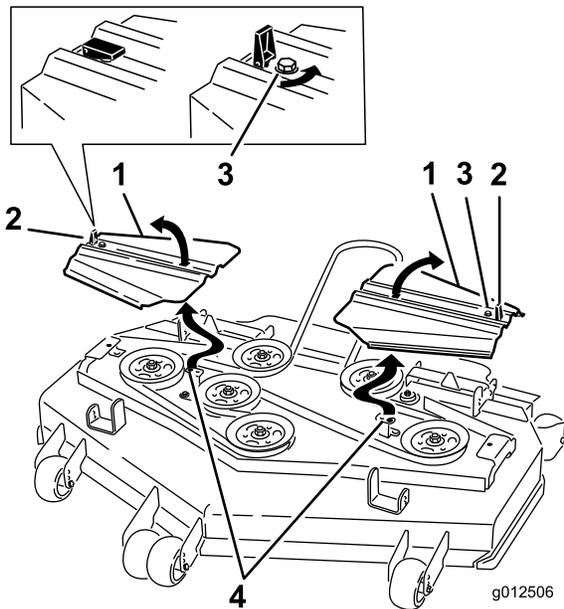

Figure 91
14. Install the belt covers with the tabs in the slots. Install the screws and close the latches (Figure 91).